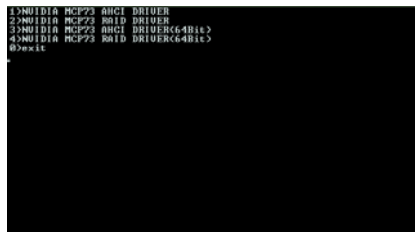
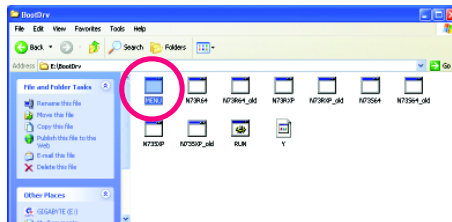

Figure 2
Figure 3
Step 2: When the controller menu (Figure 2) appears ^(Note 3), remove the startup disk and insert the blank formatted disk. Select the controller driver by pressing the corresponding letter from the menu. For example, in the menu in Figure 2, to install Windows XP (32-bit) onto your RAID drives, press <2> to select 2)NVIDIA MCP73 RAID DRIVER. Your system will then automatically zip and transfer this driver file to the floppy disk. Press <0> to exit when finished.
Use an alternative system and insert the motherboard driver disk. From your optical drive folder, double click the **MENU.exe** file in the **BootDrv** folder (Figure 3). A command prompt window will open similar to that in Figure 2.